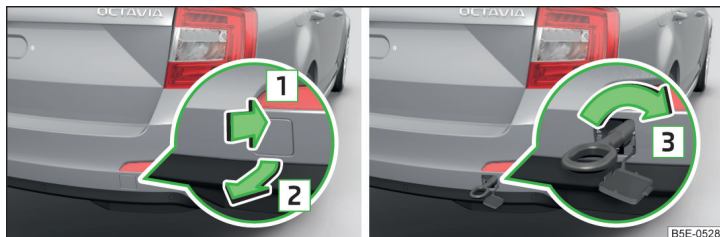
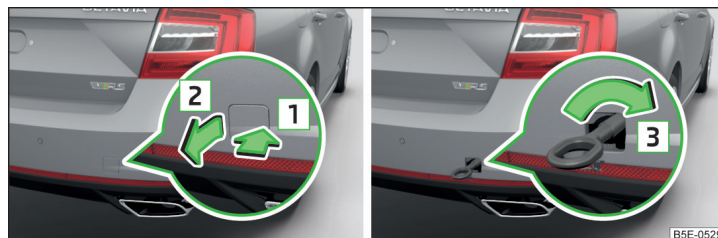

Fig. 209 Expansion of the cap / installation of towing eye - Version 1
Fig. 210 Expansion of the cap / installation of towing eye - Version 2
- Press on the cap in the area of arrow **1** » Fig. 209 or » Fig. 210.
- Manually screw the towing eye in as far as it will go in the direction of the arrow **3** » Fig. 209 or » Fig. 210 to the stop » **!**.